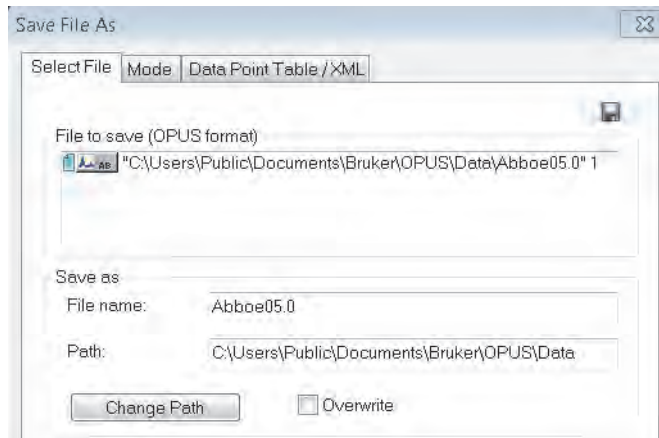

Figure 4.15: Save File As
2. On the dialog that opens, drag & drop the spectrum file from the browser to the *File to save (OPUS format)* list box (figure 4.15).